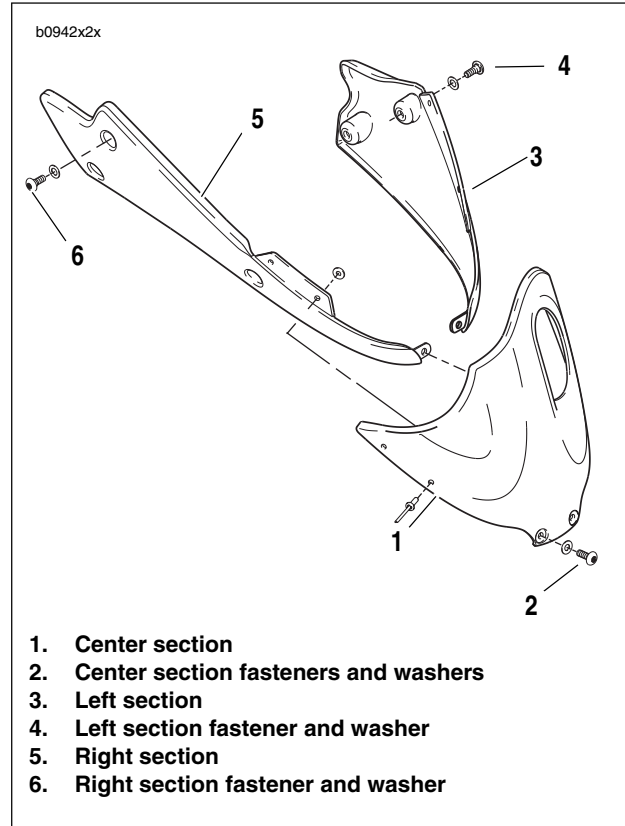

Figure 2-118. Chin Fairing Assembly
3. See Figure 2-118. Remove center section fasteners and washers (2).
4. Remove left section fasteners and washers (4).
5. Remove right section fasteners and washers (6).
1. See Figure 2-118. Position chin fairing (5) and install with right side fasteners and washers (6).
2. Align left section (3) and install with left side fasteners and washers (4).
4. Align center section (1) and install with center section fasteners and washers (2). Use LOCTITE 272 (red) on all fasteners tightening to 36-48 **in-lbs** (4-5 Nm).